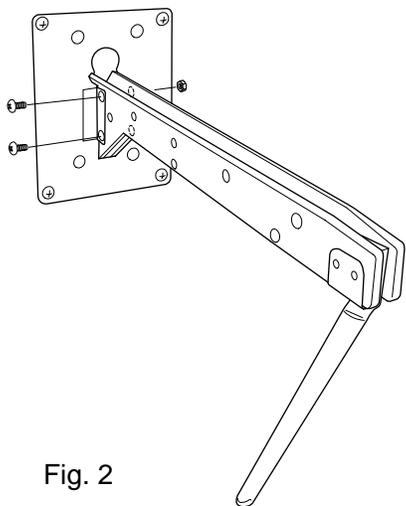

Fig. 2
- 1) Unscrew 2 position of the Phillips screws. (See Fig.2)